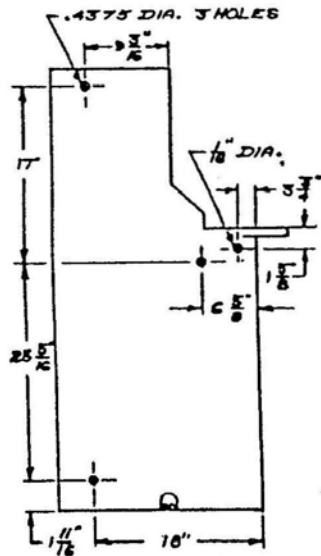
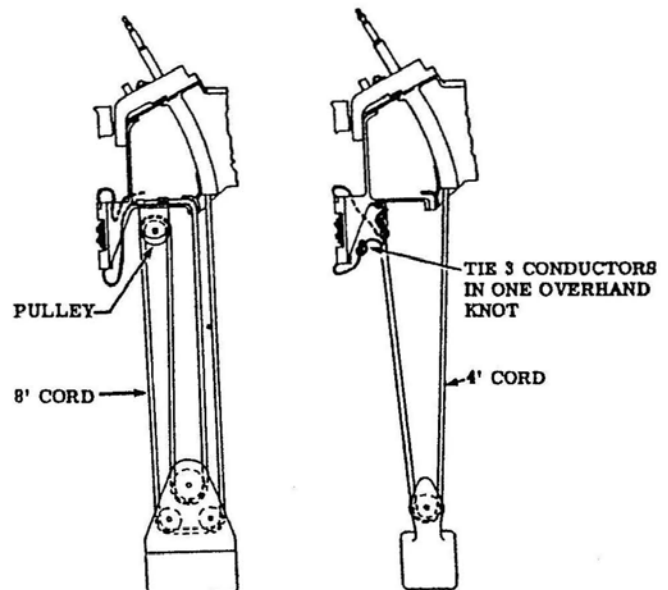

Figure 7. End Panel Drilling for Two Position Switchboard
Figure 8. Method of Installing Cords
2.07 Cord circuit units equipped with 4-foot cords shall have the three cord conductors tied in one overhand knot as shown in Fig. 7. Avoid wedging cord conductors between units when installing these units in the PBX.
2.13 Only one side panel is required between the two positions. The hooks for mounting one side panel are removed and the positions lined up with each other. Drill holes through the center panel (see Fig. 7) and bolt the positions together using 1-1/2" x 3/8" cap screws with washers and nuts. Eight-foot cords with special cord weights are used (see Fig. 8).